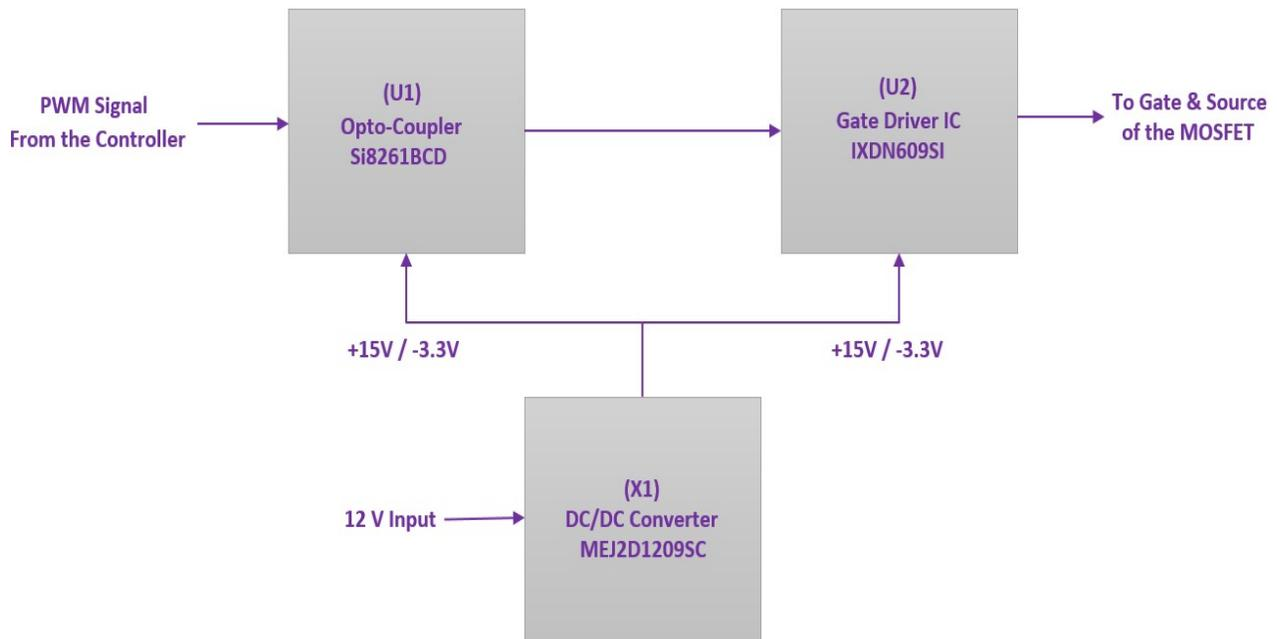

Figure 4. Block diagram of Cree's CGD15SG00D2 gate driver board for Cree's generation 3 SiC MOSFET
The block diagram of Cree’s CGD15SG00D2 gate driver board for Cree’s generation 3 SiC MOSFET is illustrated in Figure 4. It consists of an opto-coupler (U1), a gate driver integrated circuit (U2) and an isolated power supply (X1). The opto-coupler (U1) from Silicon Laboratories Inc. (P/N: Si826BCD) gets an input of pulse width modulation (PWM) signals and provides a high common mode immunity (35KV/us minimum, 50 KV/us Typical). A filtering capacitor across the optocoupler input has been provided.
Signal from the output of opto-coupler goes into an IXYS Corporation driver integrated circuit (IC) (U2) (P/N: IXDN609SI) as shown in Figure 4. U2 provides 35V of output swing and up to 9A of output current with a typical output resistance of 0.8 Ω .